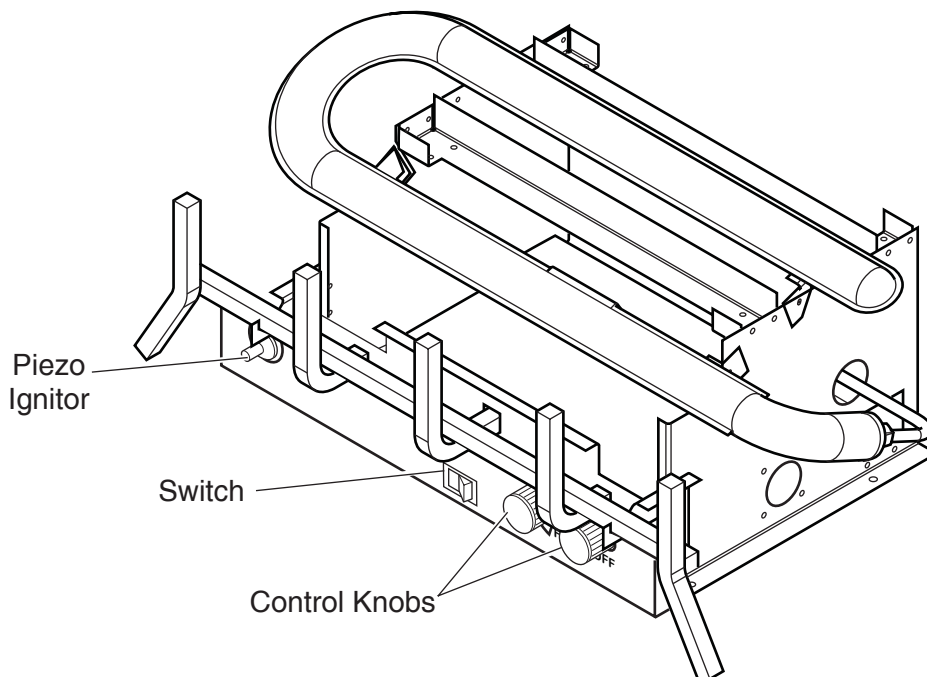

Figure 35 - Location of Piezo Ignitor, Control Knobs and Switch on Millivolt Unit
4. See *Figure 35, page 26* for the location of the piezo ignitor and control knob. Push in gas control knob slightly and turn control knob clockwise  to the OFF position.